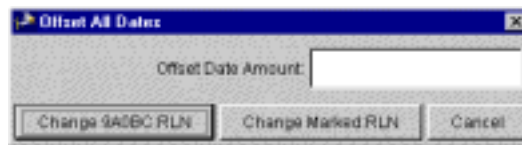

Figure 5.66 Offset All Dates Window
5. Click the Offset Dates command. The Offset All Dates window opens (Figure 5.66).